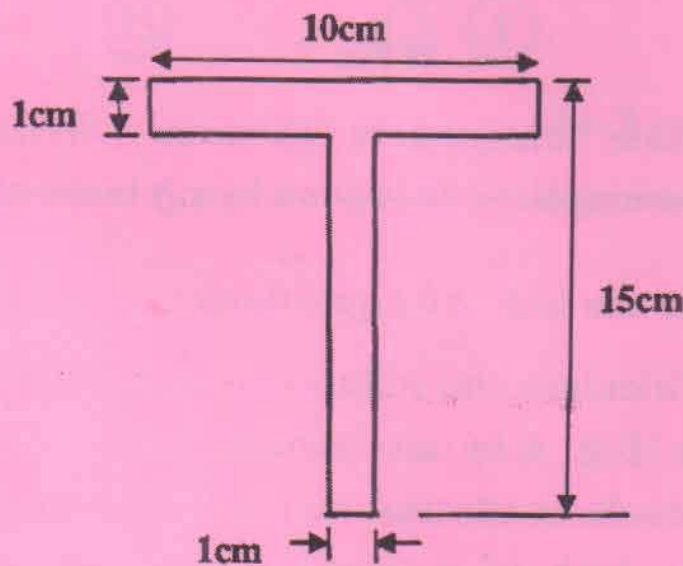

Fig. 2
- (a) Find the plastic section modulus and shape factor for the section shown in Fig 2. What is the full plastic moment of the section? What is the total u.d.l the beam will carry on a span of 5 meters simply supported? Take yield stress of steel as 250 N/mm^2